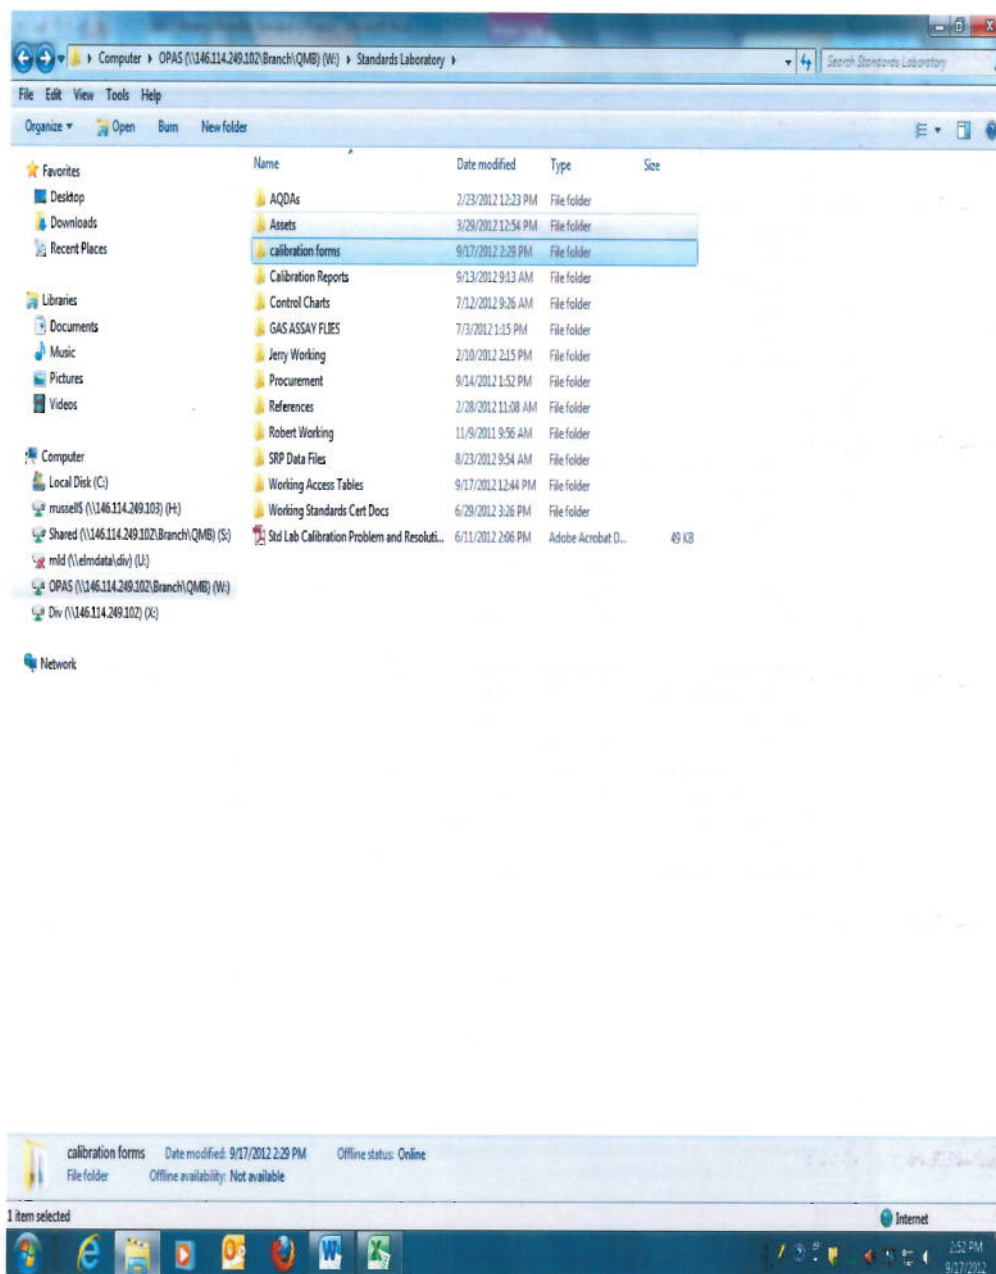

Figure 23
13.1.2 Double-click on the “Calibration Forms” folder. See Figure 23.